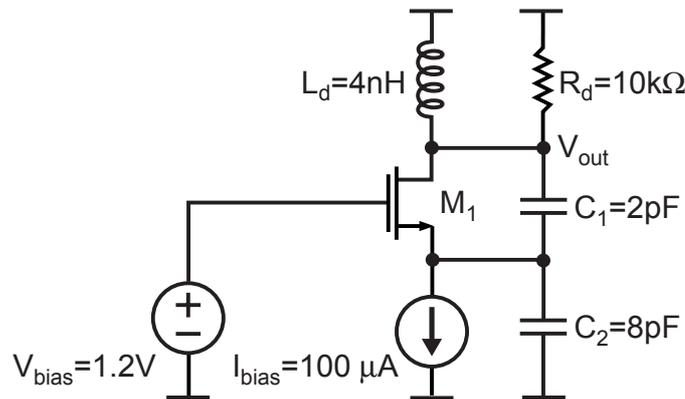

Figure 2: CMOS Colpitts oscillator.
2. The following combines Problem 2 and 8 in Chapter 16 and 17, respectively, of Thomas Lee's book. Here we examine the Colpitts oscillator shown in Figure 2. Use the 0.18u Hspice model file provided on Athena in the file `/mit/6.976/Models/0.18u/mos018.mod` for your MOS model.